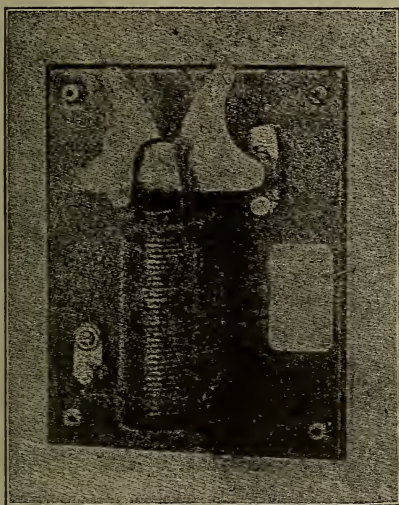

Fig. 36. Lightning Arrester with Magnetic Blow-out
*Answer.* One type is shown in Fig. 36. The air gap is between the curved plates. The magnet below is excited from the dynamo and the arc when formed is blown upwards until the space at the upper end of the curved plates is too long for the pressure to maintain the arc.